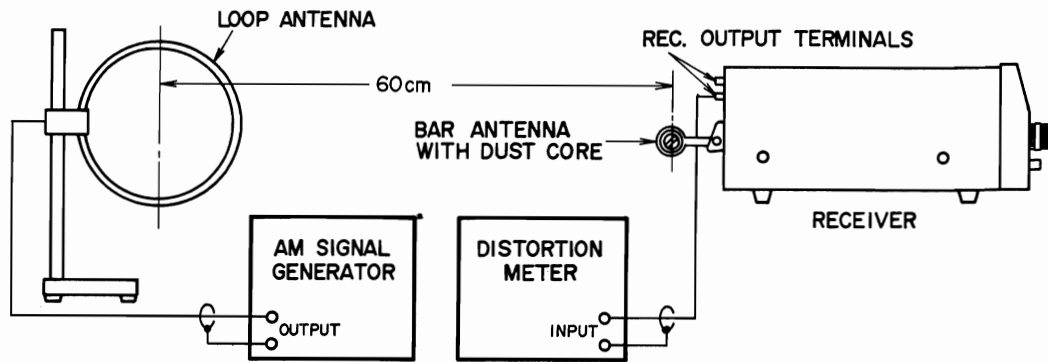

Fig. 14 INSTRUMENT CONNECTIONS
- 1) Connect the various measuring instruments as shown in Fig. 14.
- 2) Measuring instrument connections are the same as described in Tracking Adjustments. (Refer to Fig. 14)
- 5) Adjust dust core of Bar Antenna shown in Fig. 14 until the distortion meter level is maximum and the distortion factor is minimum.